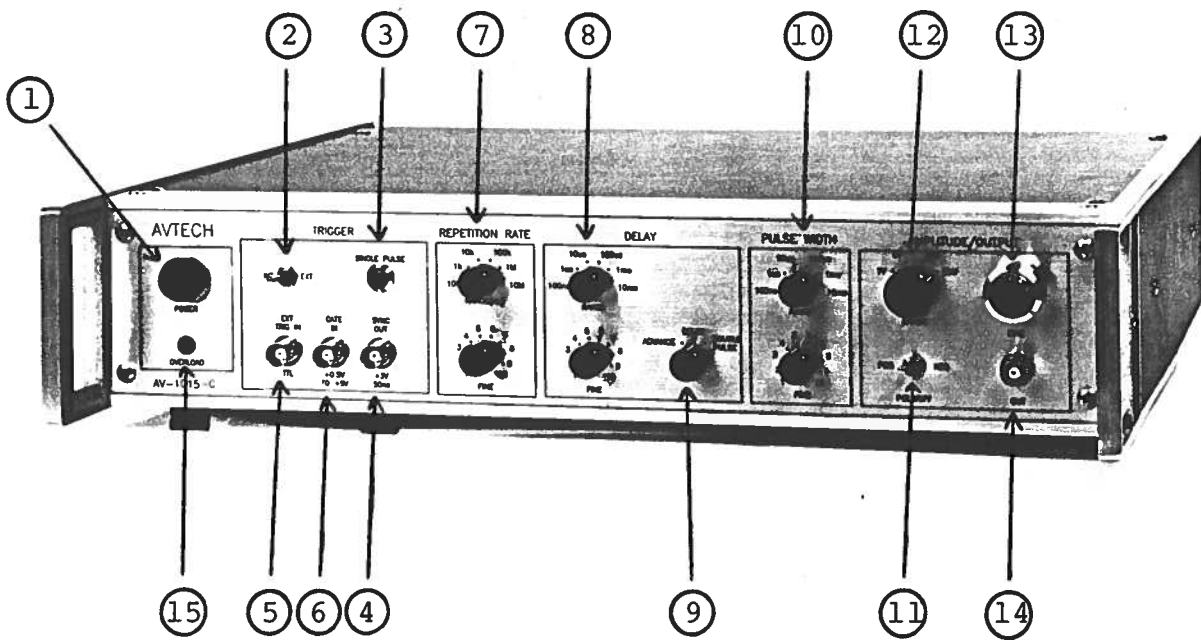

Fig. 1
- 1) The interior of the instrument may be accessed by removing the four Phillips screws on the top panel (see Fig. 1). With the four screws removed, the top cover may be slid back (and off).
- 2) The -R5 rack mount kit may be installed after first removing the one Phillips screw on the side panel adjacent to the front handle (see Fig. 1).